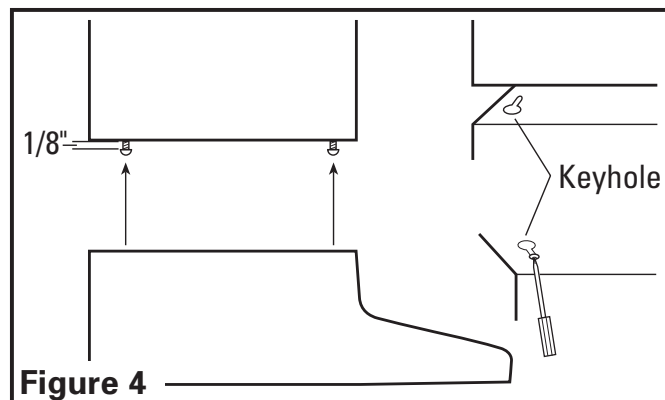

Figure 4
4. Install the 4 mounting screw at the previously marked locations. Leave approximately 1/8" clearance. Slide the hood in place through the keyhole slots and align the front of the hood so that it is flush with the front of the cabinets. Tighten all screws securely (**Figure 4**).